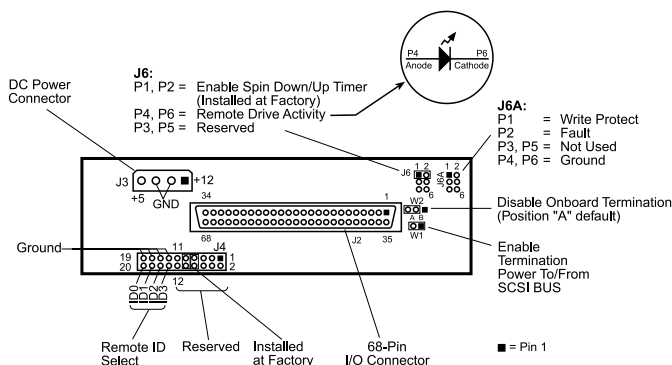

Figure 5: Receiving Frame (Rear View)
- **Device Spin Down/Up Timer** may be disabled by removing Jumper J6 P1-P2 (Figure 5). This feature allows the receiving frame unit number display to provide a visual indication of drive spin down/up activity. Refer to Figure 11 for switch settings.
6. To connect the drive to a Remote Activity LED in the computer system or expansion chassis, connect the appropriate cable(s) to the receiving frame motherboard as shown in Figure 5. Connect J6 Pins 4 & 6 to a remote activity LED.
7. Connect the I/O cable from the host adapter to the receiving frame. The Pin 1 indicator on the cable must be properly aligned. Refer to Figure 5 for the correct Pin 1 location.
Make sure that only the last SCSI device is terminated. If the DE100 is at the end of a daisy chain, the terminators on the receiving frame **must** be enabled. If the DE100 is in the middle of a daisy chain, termination should be disabled. Refer to jumper W2 in Figure 5.
8. Connect the power cable from the DC power supply in the computer or expansion chassis to the power connector on the DE100 receiving frame. Refer to Figure 5 for the DE100 receiving frame power connector location.